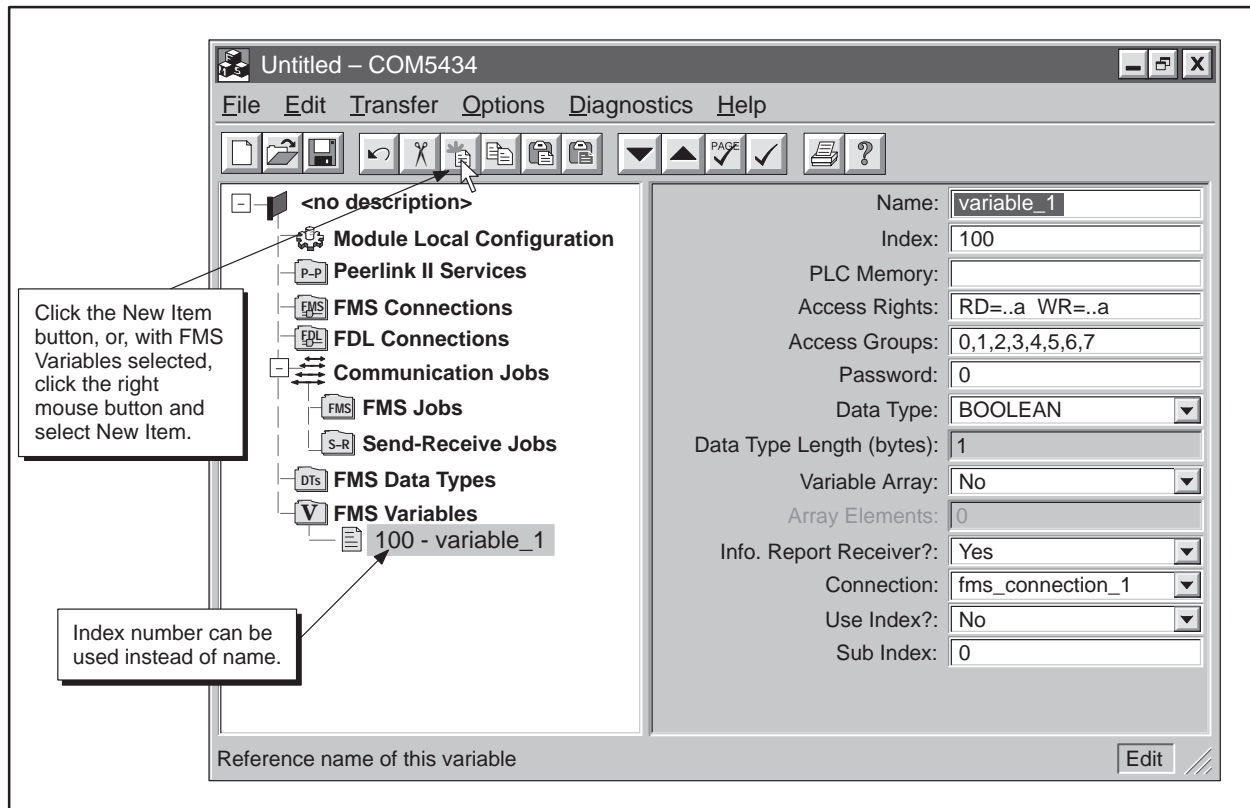

Figure 5-29 Defining FMS Variables
2. Click on the New Item button on the toolbar. An FMS Variable appears in the configuration tree and the input fields change (see Figure 5-29).